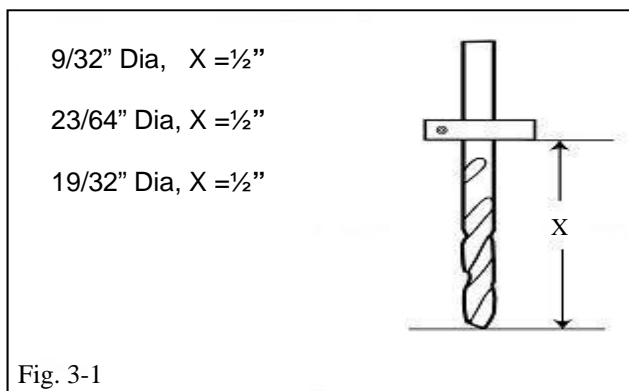

Fig. 3-2
- (c) Apply masking tape to the lift gate surface in the areas of the hole locations and where the templates will contact the lift gate (Fig. 3-2).